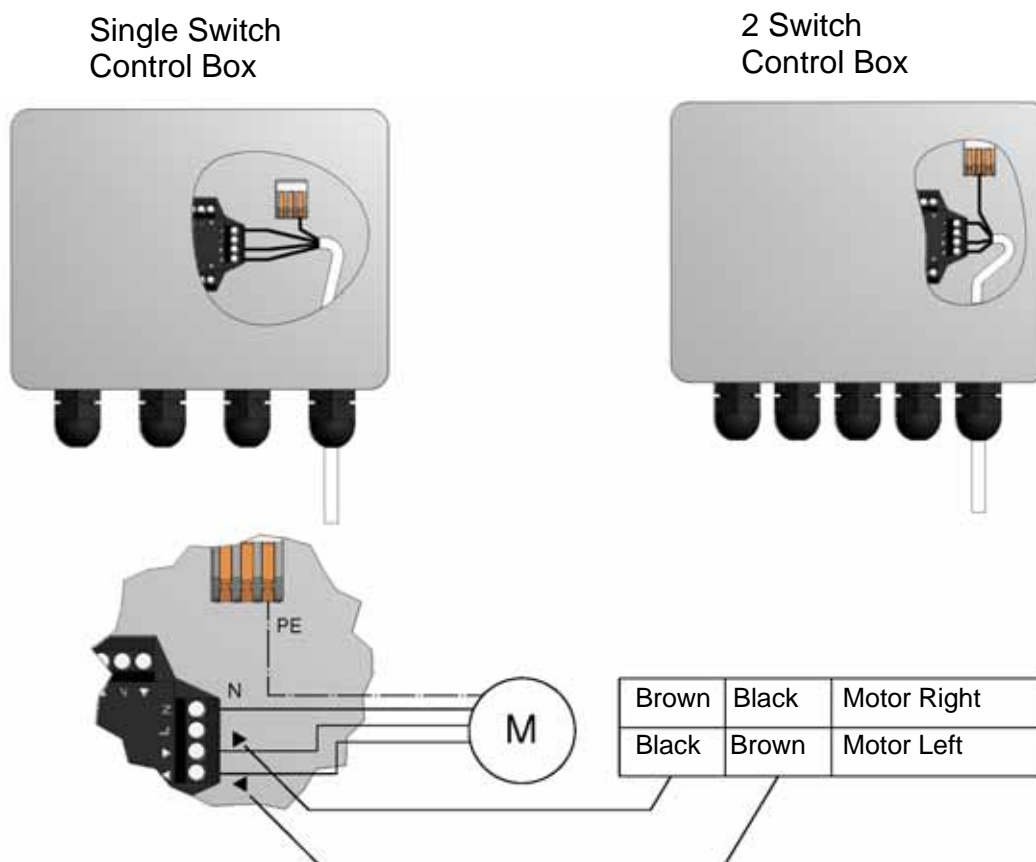

Figure 21, Control Box Wiring
4.9 Run the 4-core motor cable from the control box to the second junction box (N1) at the other end of the system and fasten to the building. Before fitting the second motor to the Middle Tube, temporarily wire in the second motor, Figure 21, to ensure that its rotation is the same orientation as the first motor. Note that the motors are facing each other so the up & down directional wires will have to be reversed.